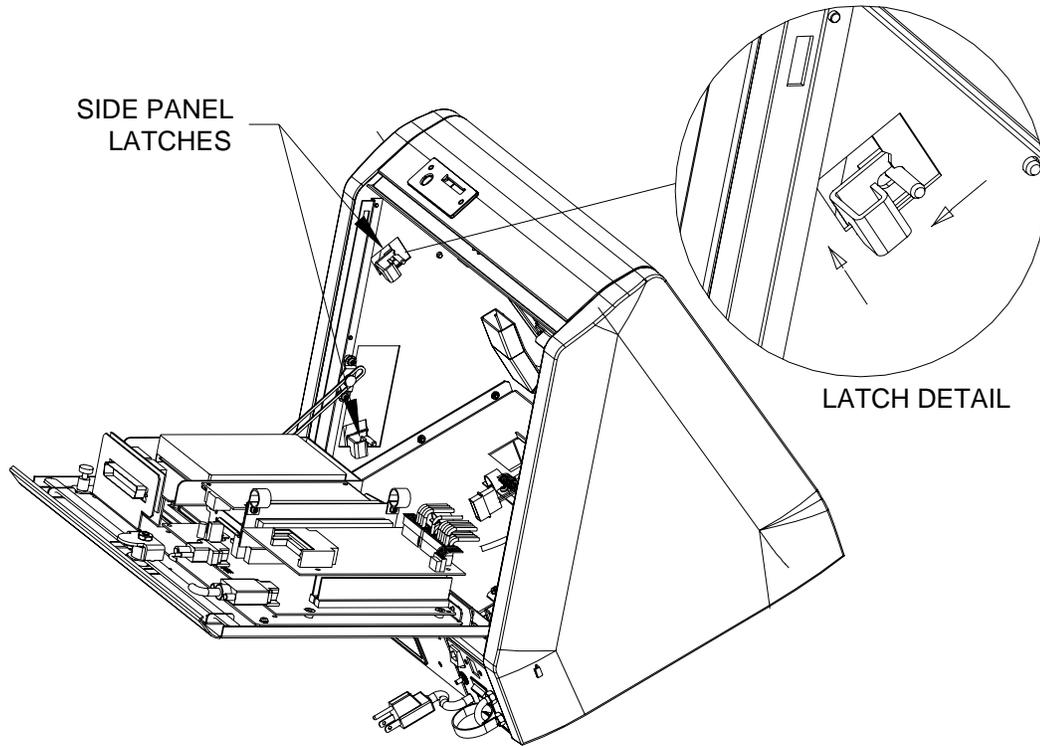

FIGURE 3 - SIDE PANEL LATCH ACCESS
4. Remove the screws holding the rear bezel to the game and remove the bezel. Five screws fasten the top edge of the bezel and 2 on each side fasten the bottom. See Figure 3.